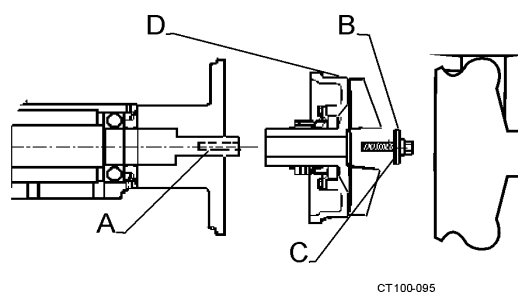

Figure 38 - Installing Impeller Assembly
11. Install the impeller key. (Figure 38, item A).
12. Install the O-ring on the impeller retainer bolt. (Figure 38, item C).
13. Install impeller retainer bolt and tighten (Figure 38, item B).